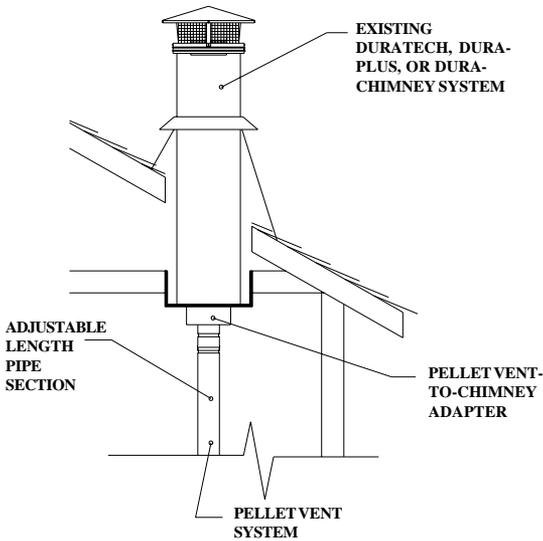

Fig 7
either roof supported, or ceiling supported: (Figure 7).
C. Install a Close Clearance Adaptor (available in the Dura-Vent chimney product catalog - product stock numbers (6") 8674, (7") 8774, or (8") 8874, in the existing ceiling support box, as shown in Figure 7. Note that the Close Clearance Adaptor only connects to Simpson Dura-Vent chimney systems.
of pipe as required, and an Adjustable Length pipe. Slide the Adjustable Length down over the top pipe section, position the installation vertically plumb, then slip the Adjustable Length up and twist lock it to the Chimney Adaptor. Once all the components are firmly seated and properly aligned, carefully drill three 1/8" diameter holes through the outer sleeve only in the center of the slots located at the bottom of the Adjustable Length pipe. Do not penetrate the inner liner. Use (3) 3/8" length sheet metal screws to secure the Adjustable Length pipe. The completed installation will look like Figure 7.